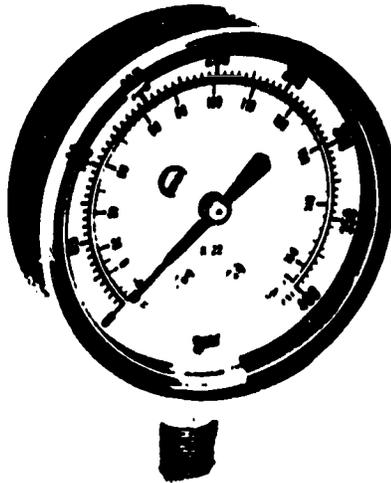

Fig 3-14. Pressure gauge.
**PRESSURE GAUGES** (fig 3-14) are used to determine pressures on the high side of the system. The outside scale is calibrated in psig and the inside scales indicate the corresponding temperatures of the different types of refrigerant. Some pressure gauges are not designed to operate at pressures below atmospheric pressure. Therefore, caution should be used during evacuation procedures to prevent damage to these gauges.